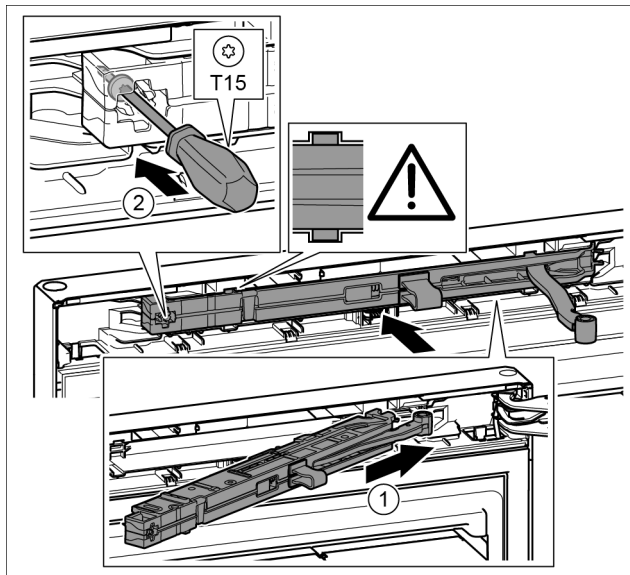

Fig. 41
- ▶ Slide the soft stop mechanism on the bearing bracket side at an angle into the slot as far as the limit stop. *Fig. 41 (1)*
- ▶ Tighten the screw with the T15 screwdriver. *Fig. 41 (2)*